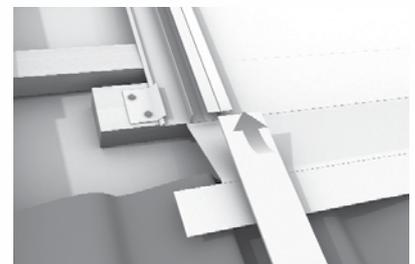
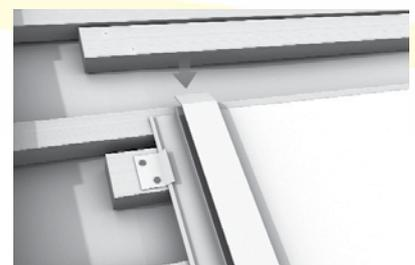

Figure 64: Installation of Cover Sheets
Figure 65: Installation of Cover Sheets
9. Fit cover strip on the joint between the base tray and side gutter. Fit the end of the strip onto the two outward facing flanges - see Figure 64. Slide cover strip up the full length of the joint. Finally fold over at both ends of cover strip to secure - see Figure 65. Repeat to fit cover strips on the other side gutter and on all joints between the base trays.